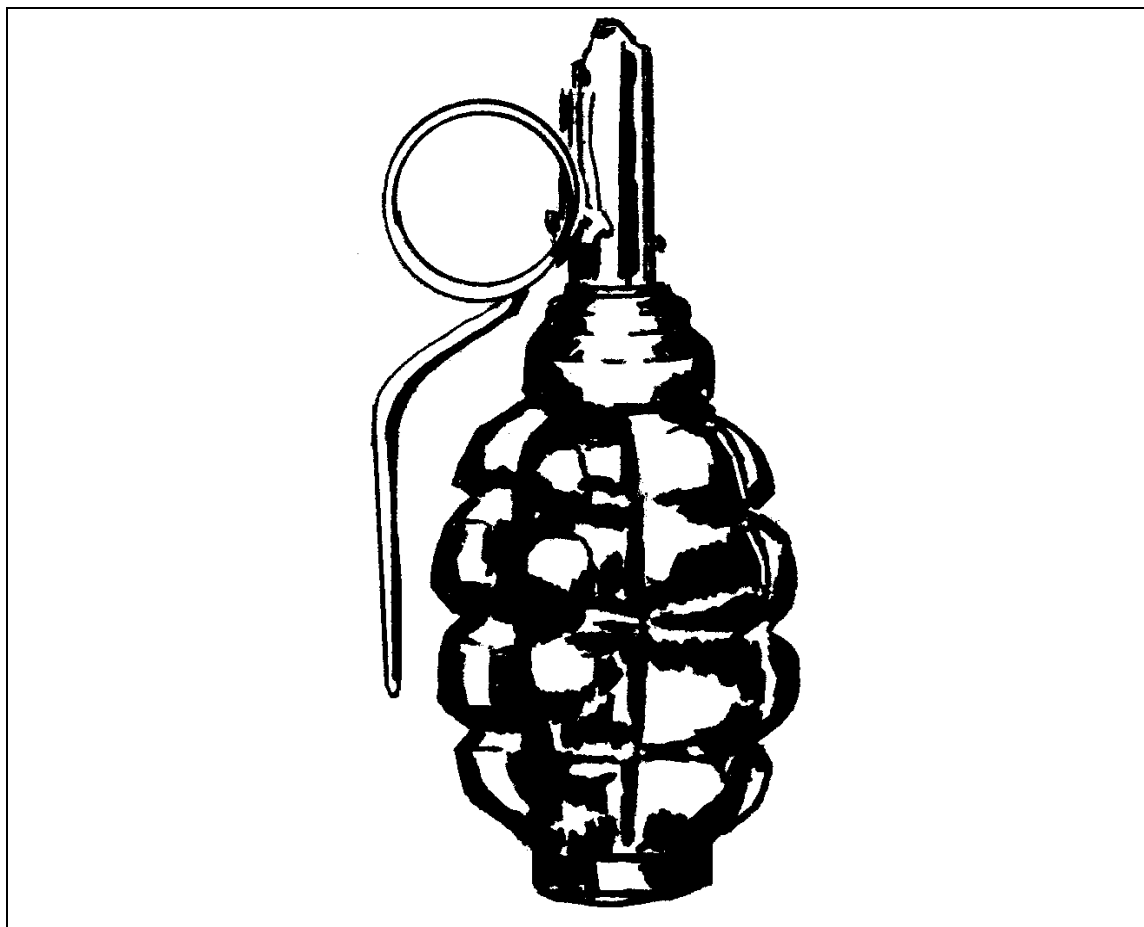

Figure D-12. Type 1 fragmentation grenade.
- Type: Fragmentation. (Figure D-12)